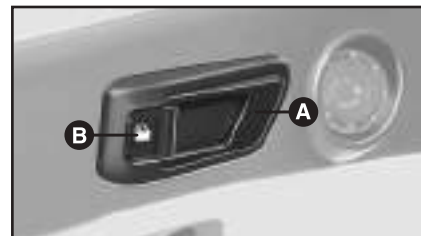

fig. 52
**Opening:** lift opening lever **A**-fig. 52.
### CENTRAL DOOR LOCKING (where fitted) fig. 52